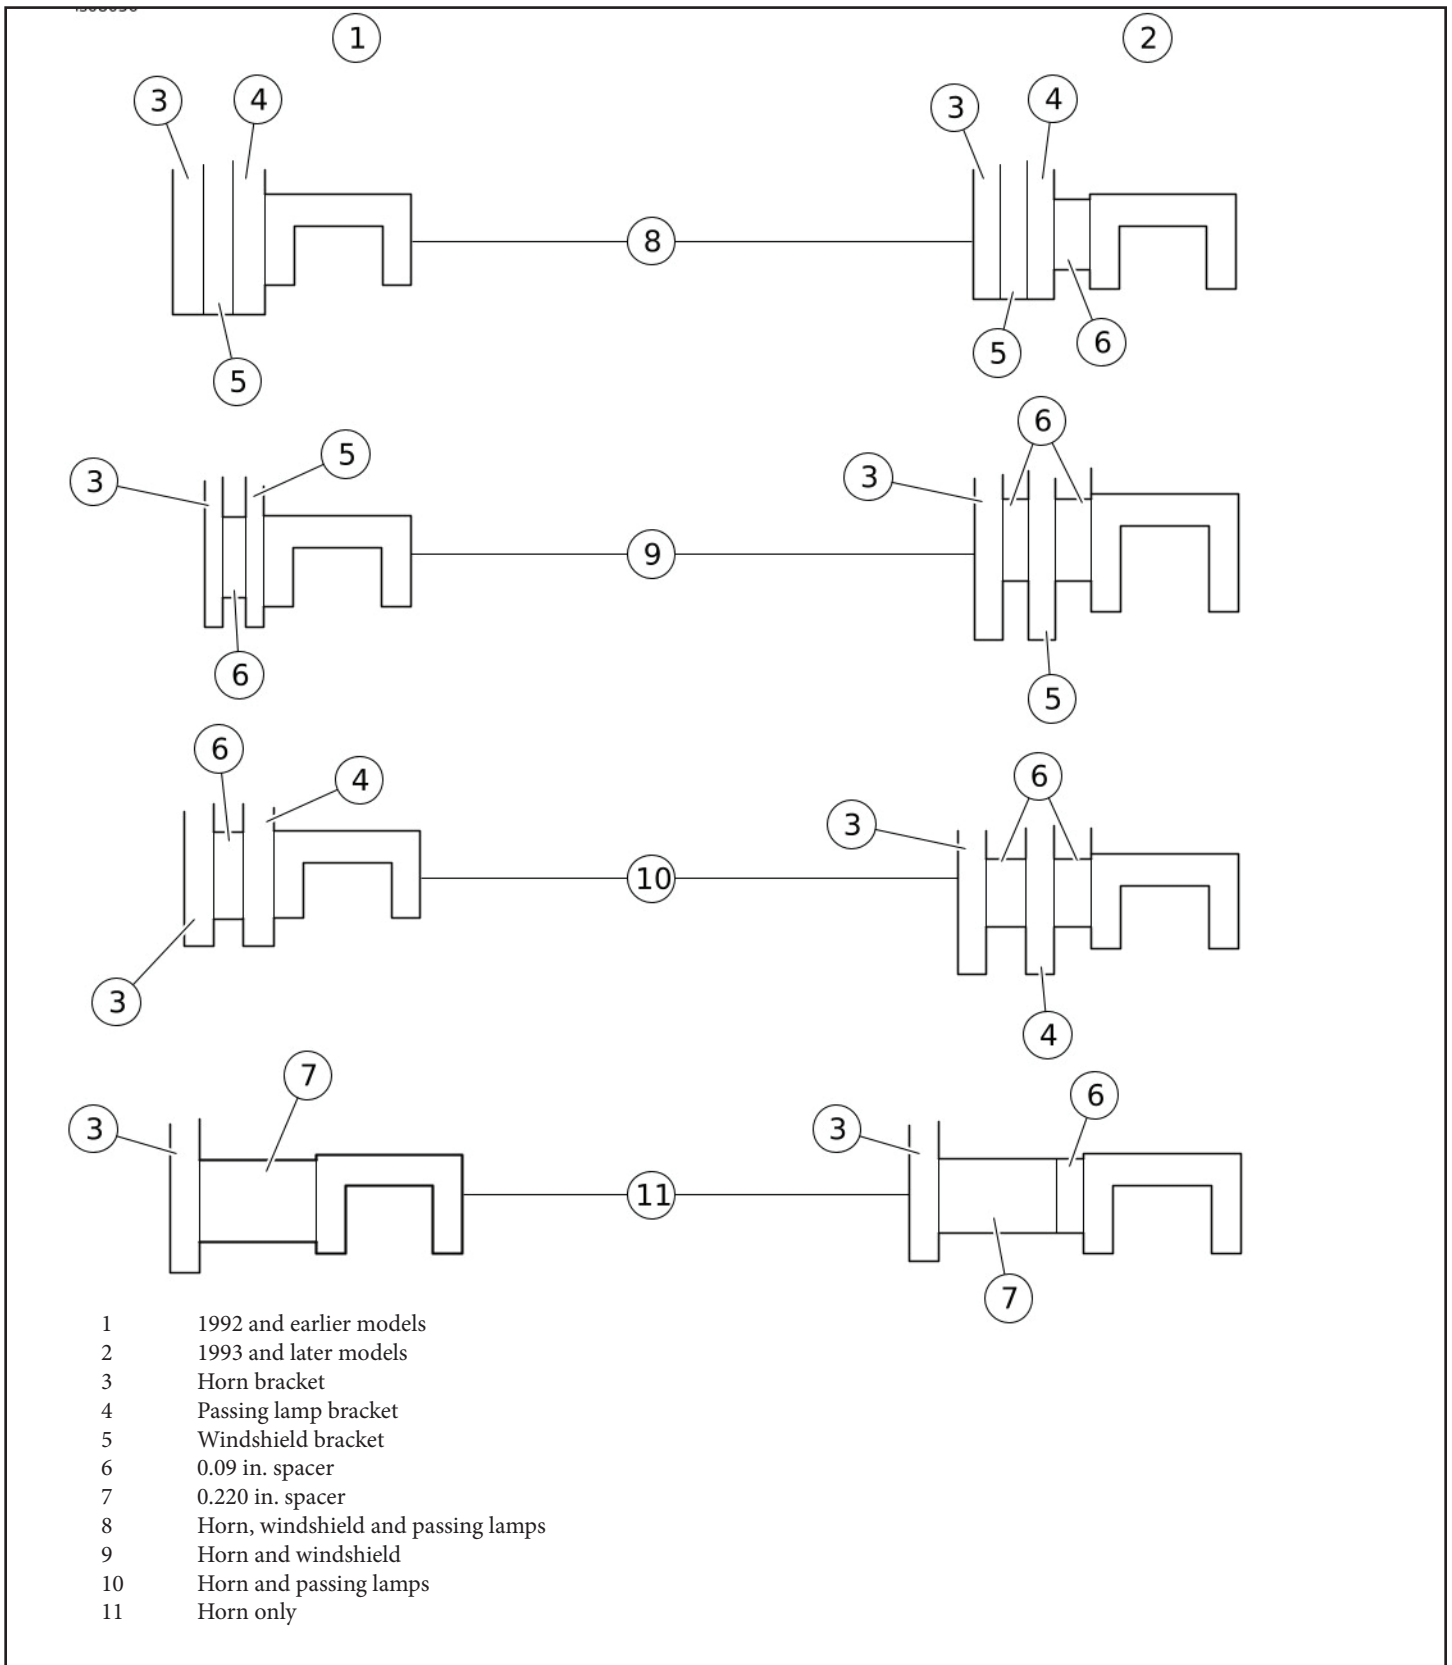

Figure 1. Mounting Chart for Accessories
**NOTE:** See Figure 1. If mounting with accessories Windshield Kit and/or Passing Lamp Kit, mount to upper shock mount in the order described in Figure 1.